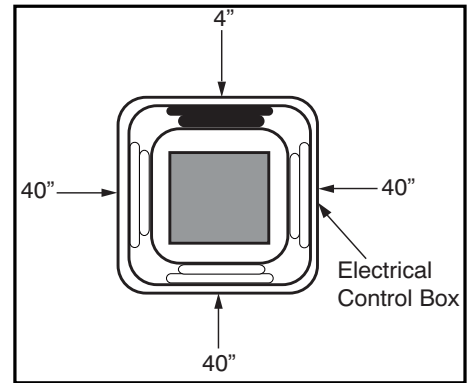

Fig. 7 —1 Supply Louver Blocked Off
- When installing the unit with one or two block offs or connecting supply duct opening, see Figs. 7 and 8 for more information.